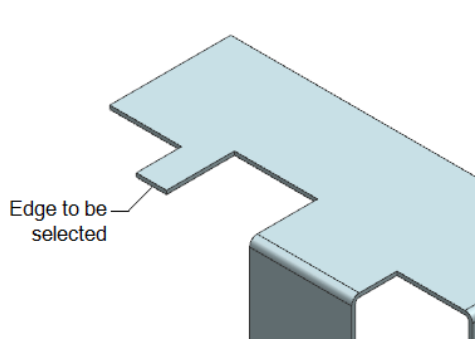

Figure 14-112 Edge to be selected
8. Select the edge, as shown in Figure 14-112.